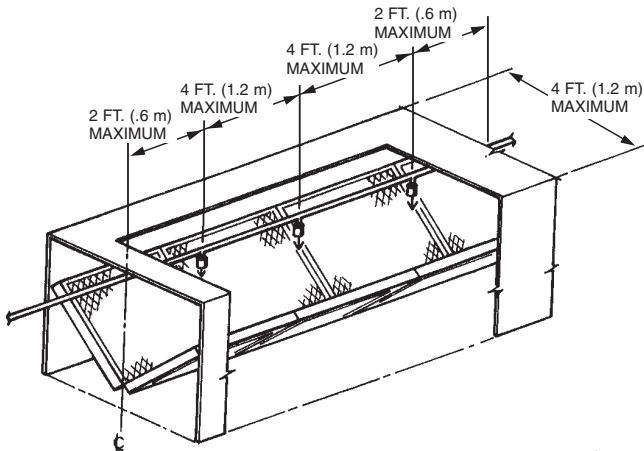

FIGURE 6
- ▶ One 1W nozzle will protect 4 linear feet (1.2 m) of plenum. The maximum distance from the end of the hood to the first and last nozzle must be no more than 2 ft. (.6 m). After the first nozzle, any additional nozzles must be positioned at a maximum of 4 ft. (1.2 m) apart down the entire length of the plenum. The plenum width must not exceed 4 ft. (1.2 m). (The 1W nozzle can be used on single or V-bank filter arrangements.) See Figure 6.